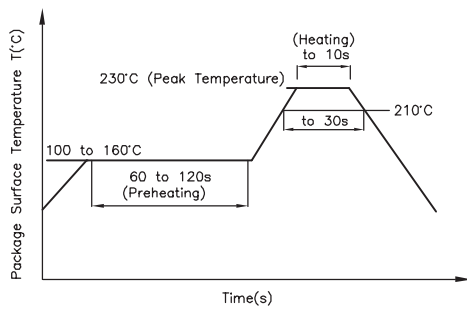

Fig. 4
- SMD LEDs: Reflow Soldering – Pb-Free Solder (Fig. 3) | Pb-Sn Solder (Fig. 4)